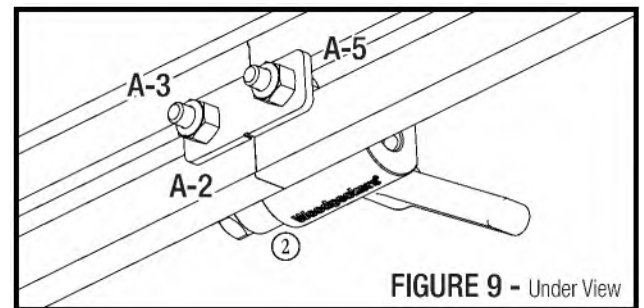

FIGURE 9 - Under View
4. Slide the T-Slot Track ends together. Tighten a Rip-Flip Stop ② in place over the seam to ensure that the two T-Slot Tracks align. Then fully tighten the Hex Head Cap Screws on the Track Coupling Plate. **FIGURE 9.**